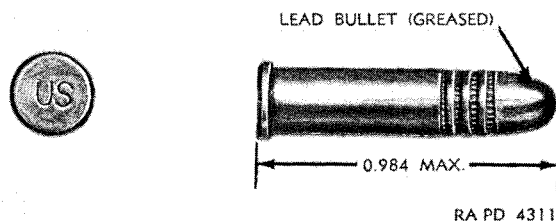

Figure 45. Cartridge, caliber .22 ball, long rifle.
The only cartridge authorized for use in these weapons is classified as ball ammunition of the long rifle type (fig. 45). The cartridge is known as a "rim fire" cartridge because the priming composition is contained in a circular recess inside the rim of the cartridge case.
a. The caliber .22 long rifle cartridges are procured by the Ordnance Corps from several commercial manufacturers. They are all of the same general appearance (fig. 45), differing slightly in shape of bullet, propellant used, and ballistic qualities. The cartridge case is made of brass and is of the rim fire type; the bullet is made of lead. The priming composition and charge of propellant may differ for each manufacturer.